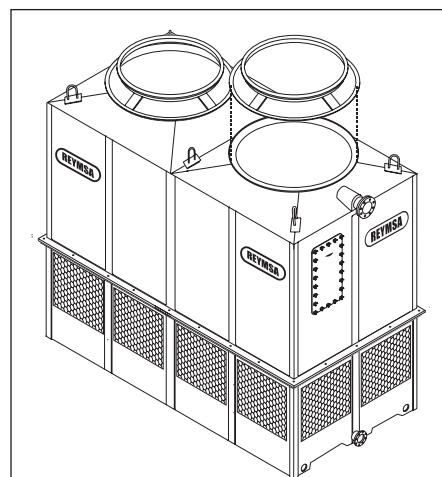

Figure A-95: Fan adaptor 2 installation on a Double Fan Tower
- B. For the Double Fan, Quadruple Fan and Modular Towers, follow the same instructions described in previous step to install remaining Fan Adaptors (see Figure A-95 for an example). Each fan adaptor is labeled with a number on the inside of the upper edge; for a correct installation, this number must match the number on the distribution manifold of the corresponding body.